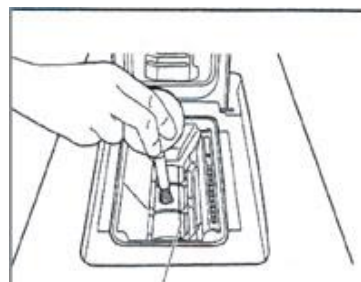

Figure 5-12
- 1) Using the air pump to clean the inside of the test strip feeder.(Figure 5-12).